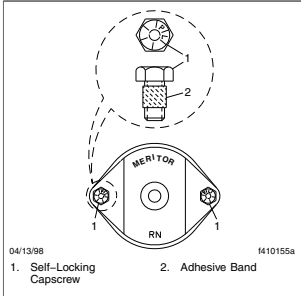

Fig. 1, Arvin Meritor U-Joint Fasteners for Bearing Caps
2. For U-joints with bearing caps, tighten bearing-cap capscrews 43 lbf-ft (49 N-m). See Fig. 1.